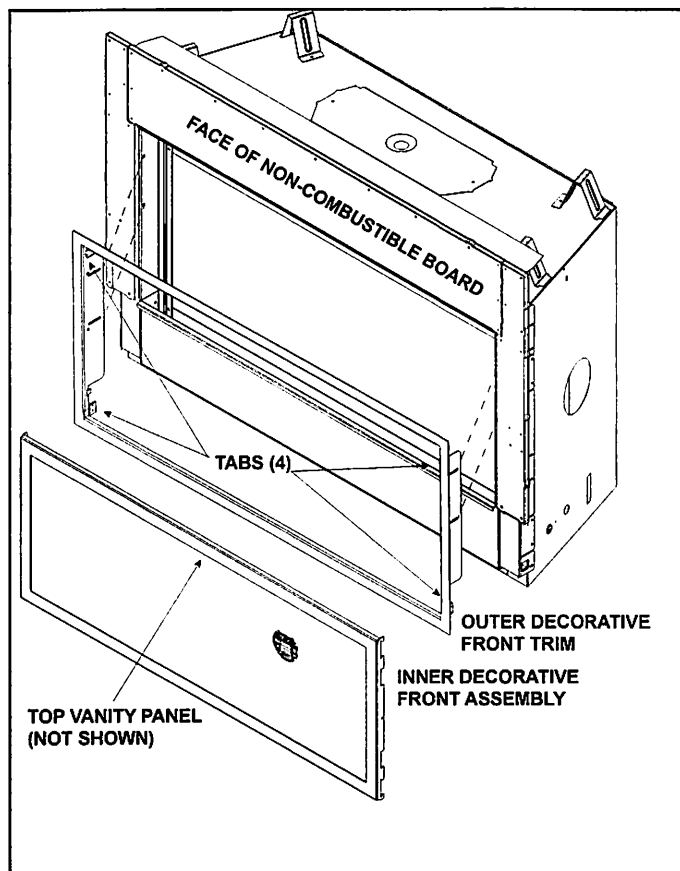
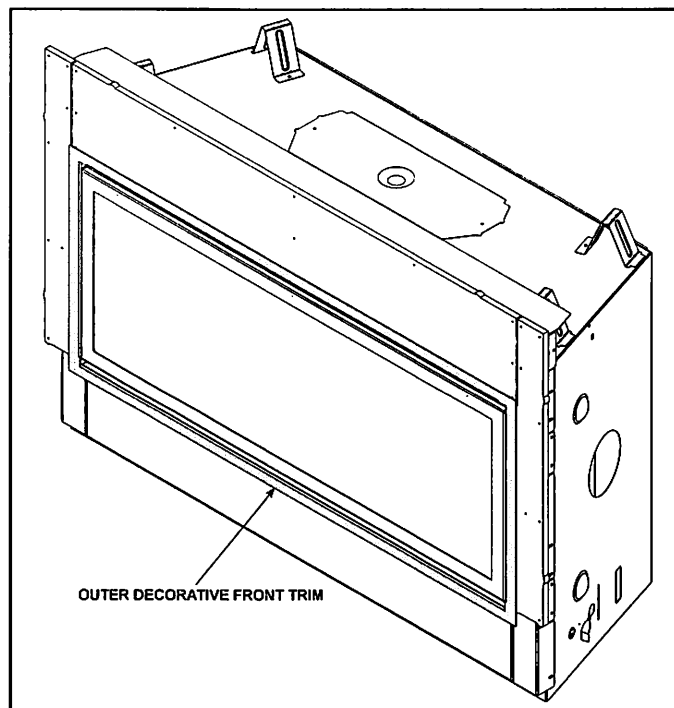

Figure 6. Outer Decorative front Trim and Inner Decorative Front Installation
Figure 7. CFT Decorative Front Installed With Outer Decorative Front Trim
1. Install the outer decorative front trim into appliance opening and secure outer trim to appliance with four hex screws. Ensure the outer trim contacts the face of the non-combustible board or finish material, if applicable. See Figure 6.
6. Install the inner decorative front assembly so that the top vanity is positioned upward. The inner decorative front assembly will hang from the four tabs located on the left/right sides of the outer decorative front trim. See Figure 6 and Figure 7.